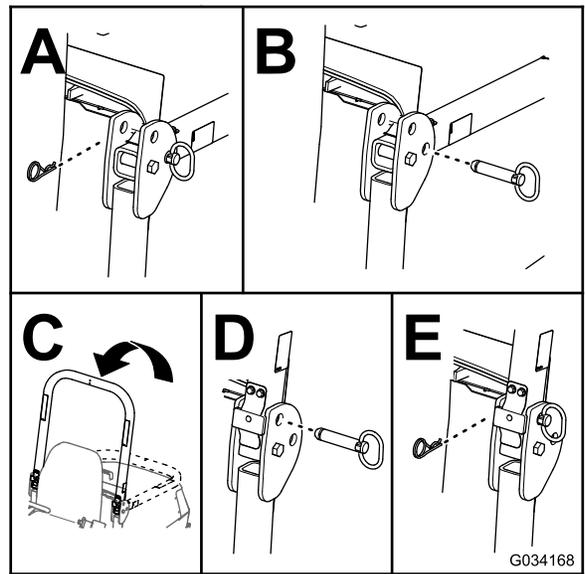

Figure 31
2. Remove the cotter pins and pins from the roll bar (Figure 31).
3. Raise the roll bar and secure it in place with the pins and cotter pins (Figure 31).